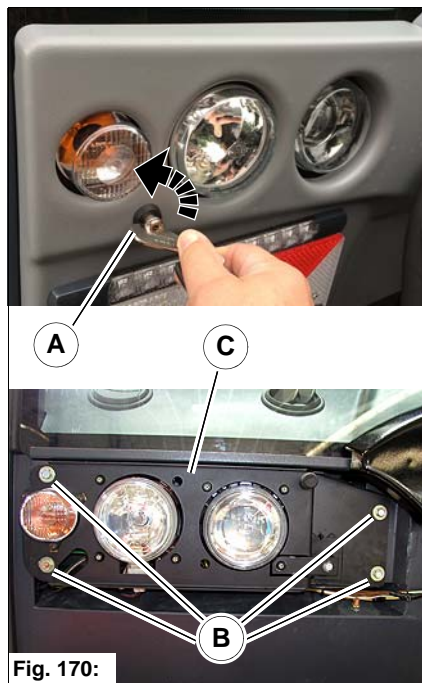

Fig. 170:
1. Use a special wrench from the toolbox to turn the lock **Fig. 170-A** on the left and right on the front cover by 90° to the vertical position.
3. Remove the hexagon nuts **Fig. 170-B**.
4. Tilt the headlight plate **Fig. 170-C** to the rear.